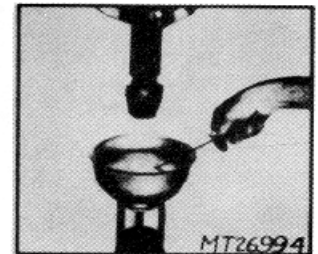

Fig. 16
3. Use a screwdriver to pop off the piston plug in the center of the piston (Fig. 16).